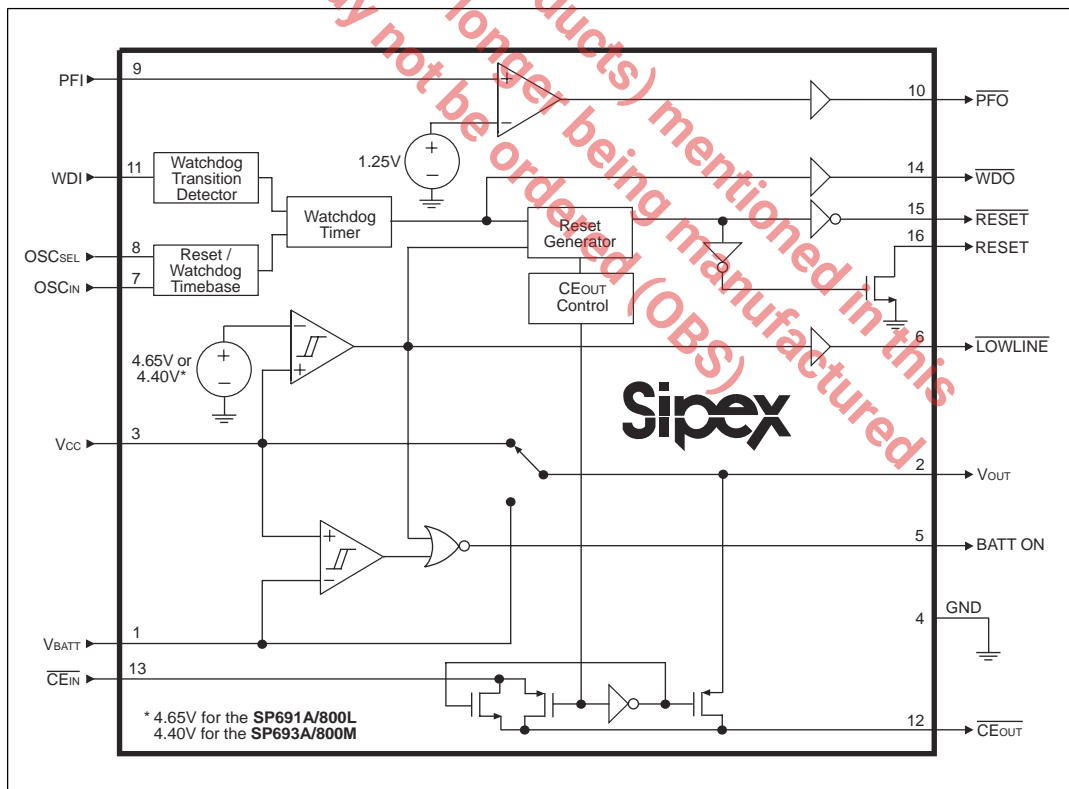

Figure 16. Internal Block Diagram of the SP691A/693A/800L/800M
The **SP691A/693A/800L/800M** devices provide internal gating of chip-enable (CE) signals, to prevent erroneous data from corrupting the CMOS RAM in the event of a power failure. During normal operation, the CE gate is enabled and passes all CE transitions. When reset is asserted, this path becomes disabled, preventing erroneous data from corrupting the CMOS RAM. The **SP691A/693A/800L/800M** devices use a series transmission gate from CE_{IN} to CE_{OUT} . Refer to *Figure 16*.
LOWLINE is the buffered output pin of the reset threshold comparator. Refer to Figure 16. LOWLINE typically sinks 3.2mA at 0.1V. For normal operation where V_{CC} is above the reset threshold, LOWLINE is pulled to V_{OUT} .